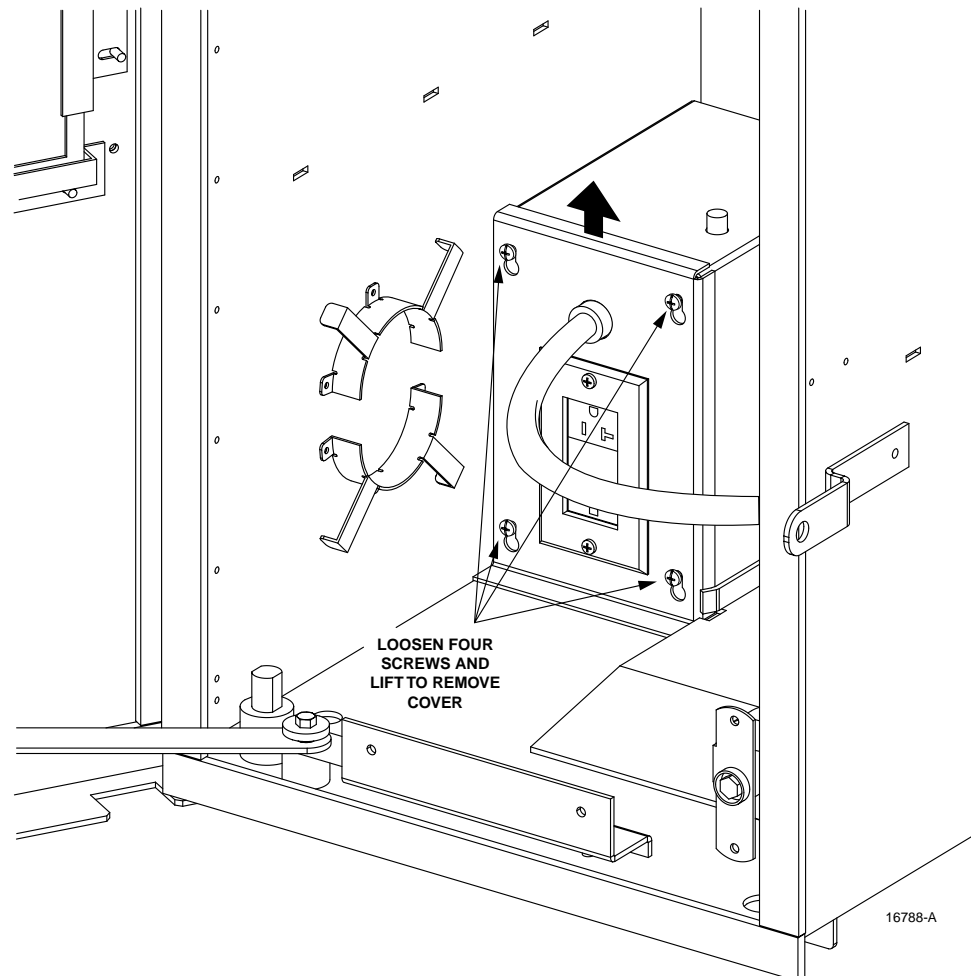

Figure 5. Accessing AC Power Wiring
1. Obtain access to the internal power wiring harness inside the auxiliary junction box by loosening the four screws securing the auxiliary box cover, pulling up and removing the cover. see Figure 5.